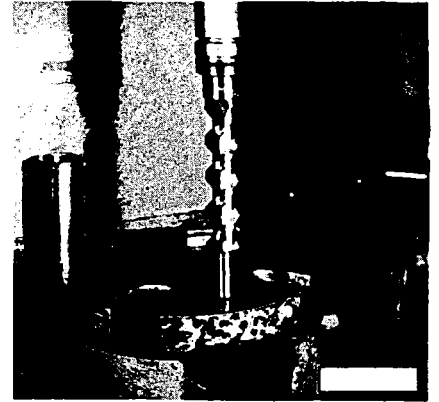

Figure 6
7. Place the ball bearing on the shaft. Using a hollow tube and pressing on the inner race, set the bearing firmly against the inner race (fig. 6). Do not press the bearing on the outer race.